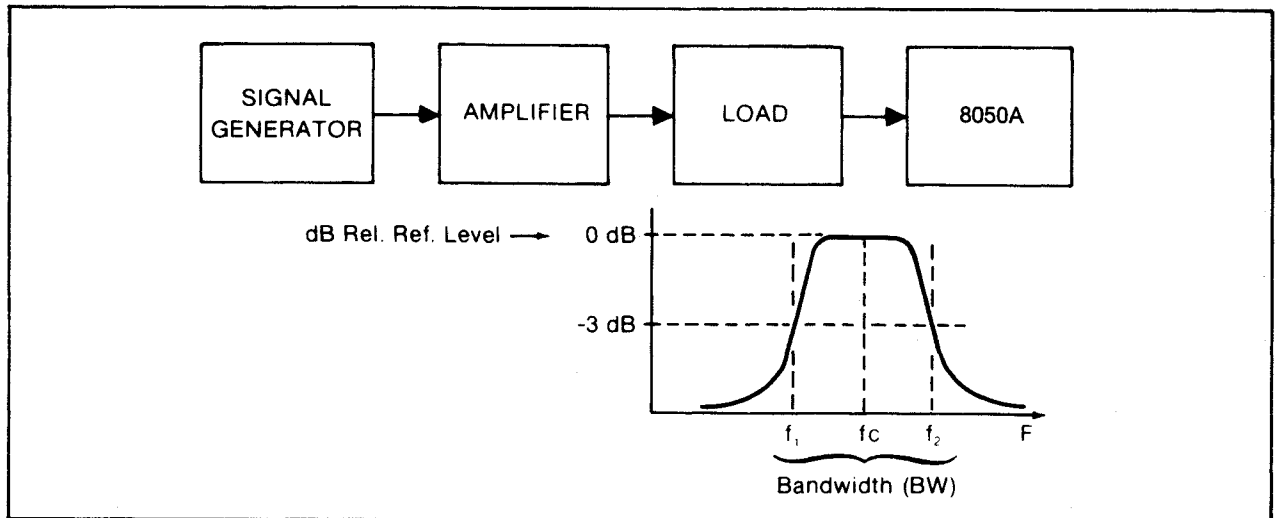

Figure 2-17. Measuring Amplifier Bandwidth
1. Connect the amplifier, signal generator, load, and 8050A as shown in Figure 2-17.
5. Beginning at a low frequency (20 Hz), steadily increase the output frequency of the signal generator while observing the ac voltage reading on the 8050A. Typically the ac voltage readings will rise to a peak, level out, then begin to fall. An example of this response curve is shown in Figure 2-17.